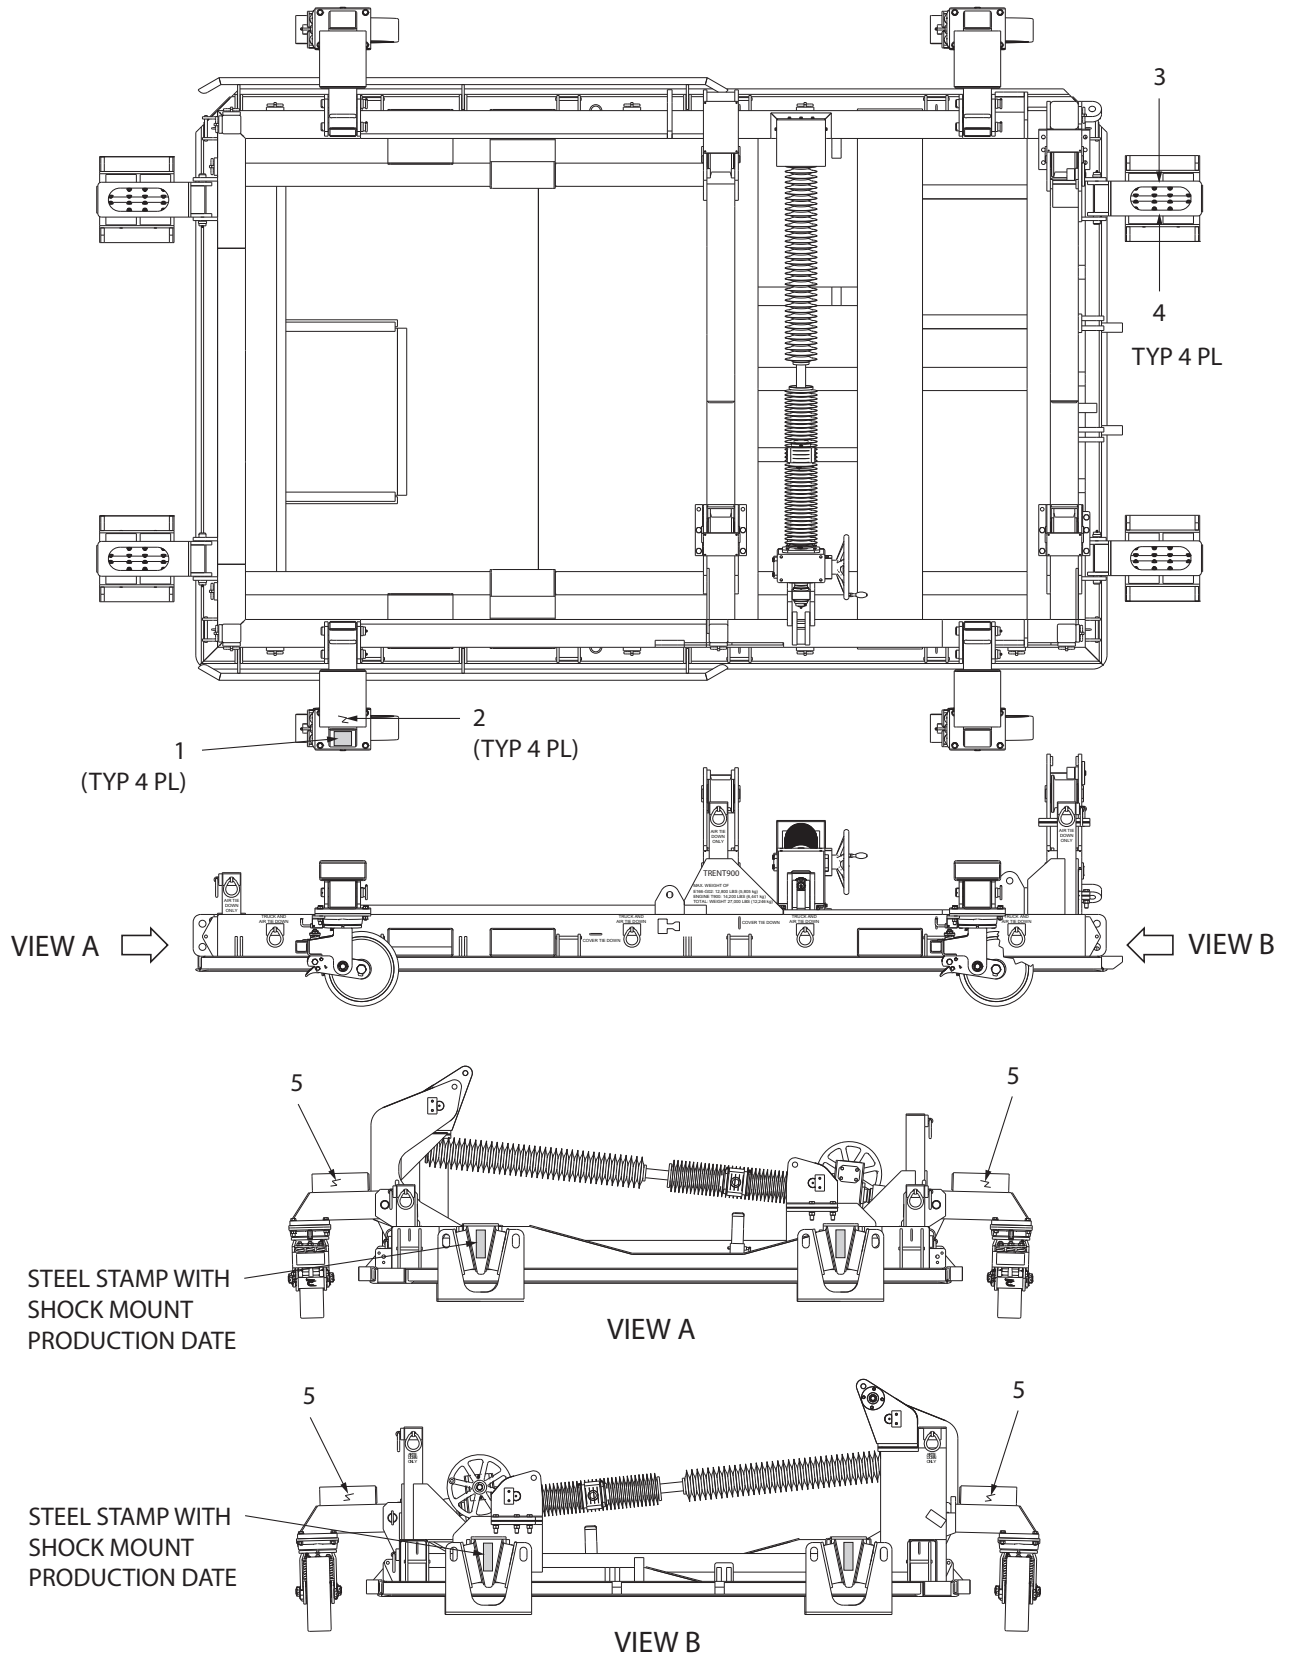

Figure 9.2.4-1
9.2.4 Shock Mount/Caster Stencils (Figures 9.2.4-1)